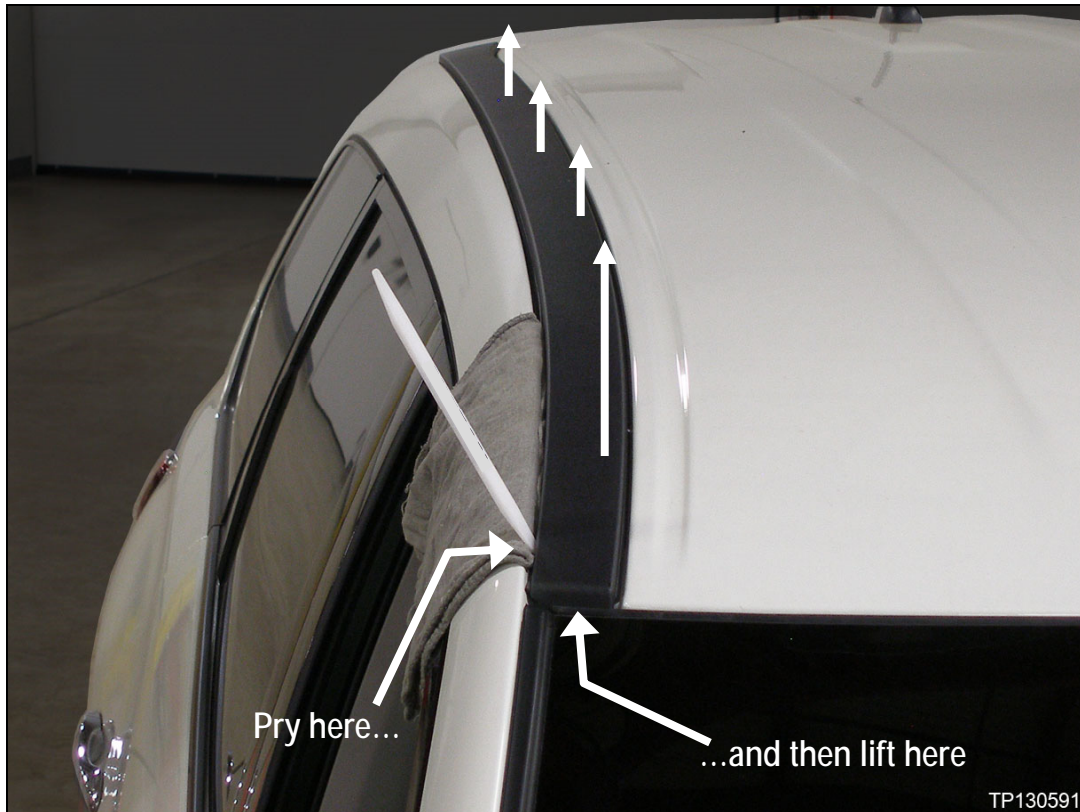

Figure 3
- Each molding has nine (9) clips and one (1) hook at the rear.
- The molding shown in Figure 3 is the style that does not accept cross bars.
- The molding style that does accept cross bars is removed in the same way as shown in Figure 3.